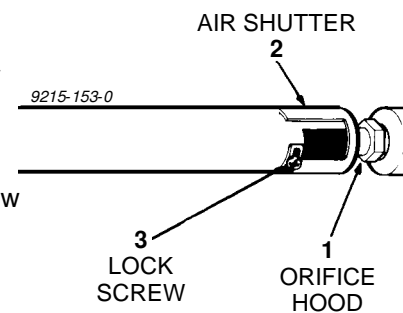

FIGURE 6
- Yellow flame on burner - open burner air shutter to the widest opening that will not cause the flame to lift or blow off the burner when cold. (See #2 on figure 6).
- Distinct blue flame but lifting - close burner air shutter to the point where it will not cause the flame to lift or blow off the burner when cold. (See #2 on figure 6).